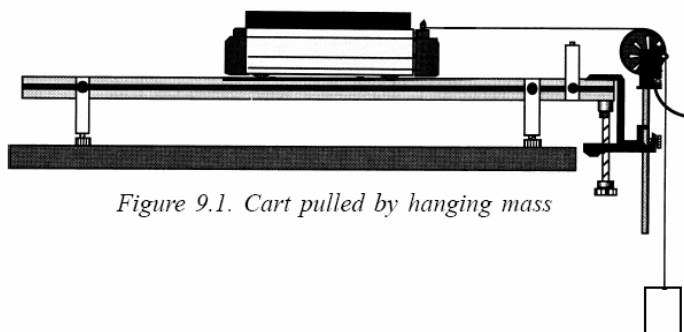

Figure 9.1. Cart pulled by hanging mass
Consider a cart of mass  $m_c$  being pulled up a track inclined at an angle  $\theta$ , as illustrated in Figure 9.1(b). All the forces on the cart  $m_c$  and on the hanging mass  $m_h$  are illustrated in free-body diagrams in Figures 9.1(a) and 9.1(c).
1. Fasten the two sets of leveling feet about 50 cm in from each end of the track, and position the track with its right end projecting over the end of the table. Place the cart on the track and adjust the leveling feet so that the cart doesn't roll on its own one way or the other, as shown in Figure 9.1.